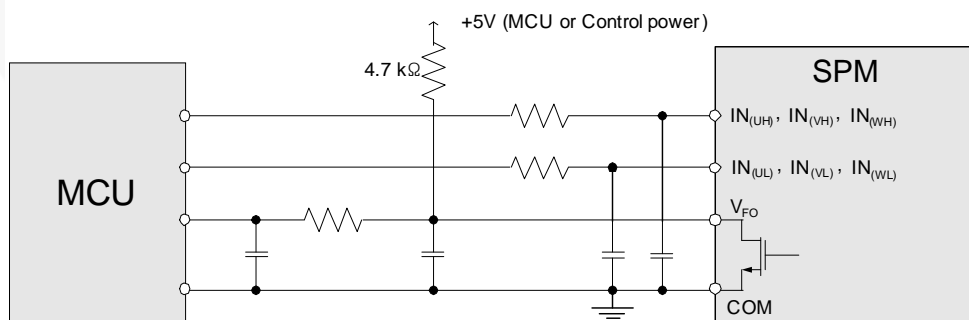

Figure 13. Recommended CPU I/O Interface Circuit
14. V_{FO} output is open-drain type. This signal line should be pulled up to the positive side of the MCU or control power supply with a resistor that makes I_{FO} up to 2 mA. Please refer to Figure 13.